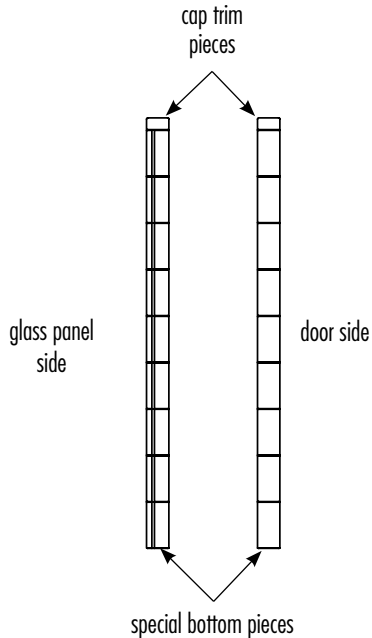

figure 26
The threshold trim pieces complete the look of your new shower system. If you purchased a Basic or Premium package which does not come with glass, your threshold pieces will be solid with out a channel. If you purchased a Supreme or Grand package which comes with glass, you will have 9 pieces with a channel and 9 without a channel. The trim pieces with channels go on the glass panel side and the pieces with out channels go on the door side (fig. 26). No matter what package you ordered there are 2 special cap trim pieces and 2 special bottom pieces.
1. Locate all the trim pieces and align them on the floor (fig. 26). Determine which set goes where.